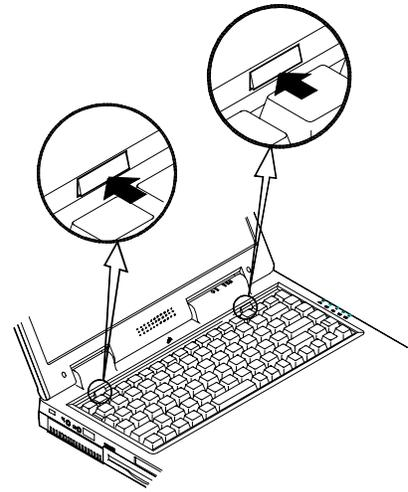

Figure 4-1
- 2) Press the two keyboard latches to elevate the keyboard from its normal position (refer to **Figure 4-1**)